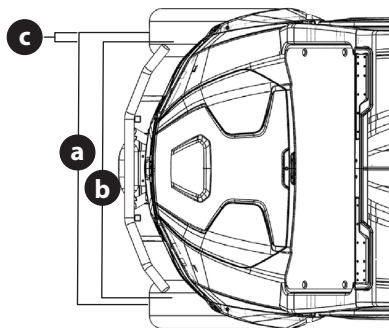

Figure 44
4. Measure the distance between the center of the front tires at hub height on the front (a) and rear (b) of the tires (Figure 44).